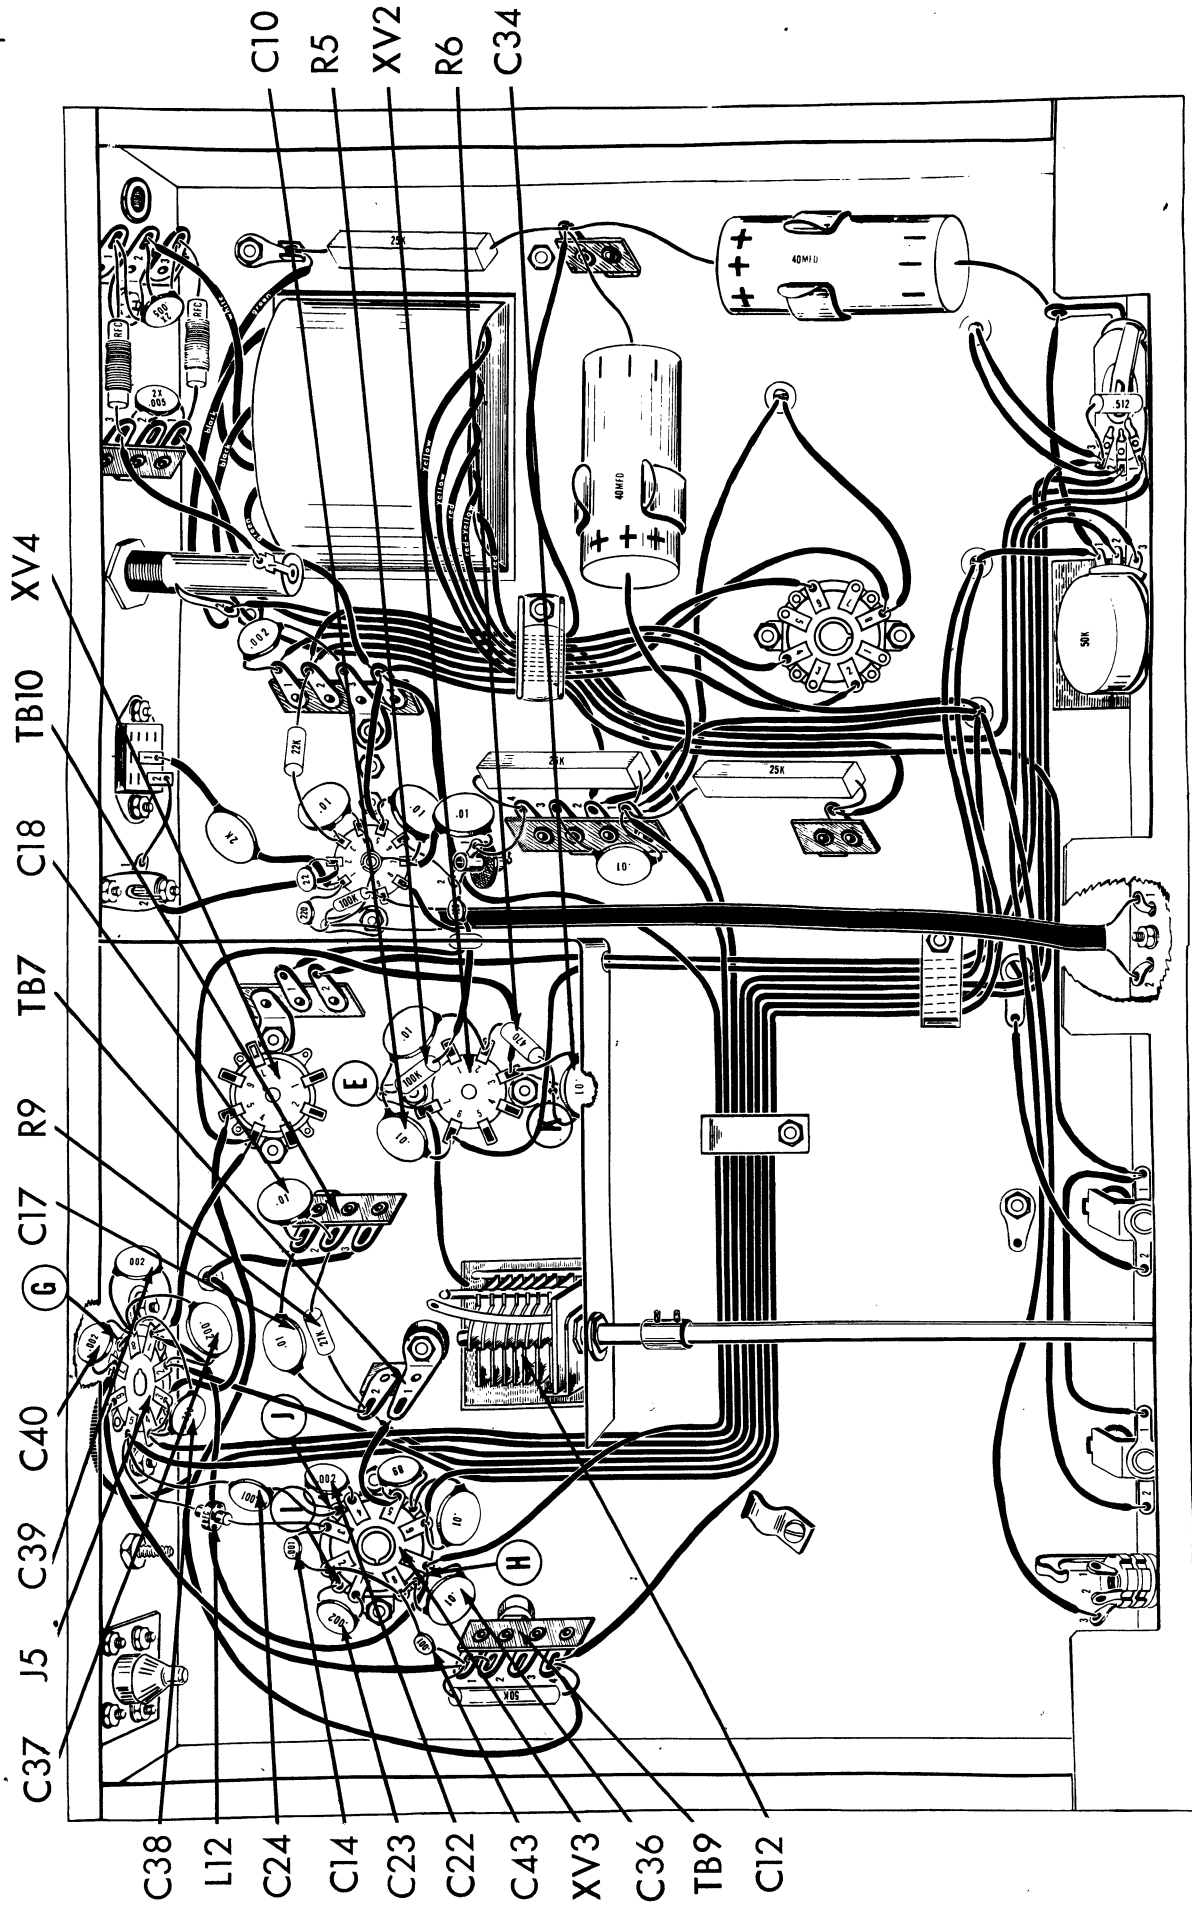

Fig. 7
1. (✓) Fig. 7. Connect a 6 1/2" piece of green wire from XV2-3 (C) to XV4-4 (C).
2. (✓) Fig. 7. Connect a 11" piece of yellow wire from TB9-4 (S3) to XV4-5 (S1).
3. (✓) Fig. 7. Connect an 6" piece of red wire from TB9-1 (C) to J5-6 (S1).
- 3a. (✓) Fig. 7. Connect a 6" piece of green wire from XV3-7 (C) to J5-1 (C).
4. (✓) Fig. 7. Connect a 4" piece of green wire from XV4-4 (S2) to J5-1 (C).
5. (✓) Fig. 7. Connect a 3/4" piece of bare wire from J5-8 (C) to ground lug "G" (S1) at J5.
6. (✓) Fig. 7. Connect a 3/4" piece of bare wire from J5-3 (S2) to J5-4 (C).
7. (✓) Fig. 7. Cut all leads on four .002 mfd (2K or 2000 mmf) disc capacitor, C37, C38, C39, and C40 to 1/2". Cover each of these leads with a 1/4" piece of spaghetti. Connect C39 from J5-1 (S3) to J5-8 (C). Connect C40 from J5-8 (C) to J5-7 (S2). Connect C37 from J5-2 (S2) to J5-8 (C). Connect C38 from J5-4 (S3) to J5-8 (S5).
8. (✓) Fig. 7. Connect a 3/4" piece of bare wire from XV3-8 (C) to ground lug "H" (C) at XV3.
9. (✓) Fig. 7. Cut both leads on a .01 mfd (10K or 10,000 mmf) disc capacitor, C36, to 1/2". Connect C36 from XV3-7 (S3) to ground lug "H" (S2).
10. (✓) Fig. 7. Cut both leads on a .001 mfd - 1000 V (1K or 1000 mmf) disc capacitor, C14, to 1/2". Connect from XV3-2 (C) to XV3-3 (C).
11. (✓) Fig. 7. Connect a 3/4" piece of bare wire from XV3-2 (C) to ground lug "I" (C) at XV3.
12. (✓) Fig. 7. Cut all leads on two .002 mfd (2K or 2000 mmf) disc capacitors, C22 and C23, to 1/2". Connect C22 from XV3-4 (S1) to ground lug "J" (C) and C23 from XV3-1 (S1) to ground lug "I" (S2).
13. (✓) Fig. 7. Connect a 1 1/4" piece of bare wire from XV3-8 (C) to XV3-2 (S3).
14. (✓) Fig. 7. Cut both leads on a .001 mfd - 2000 V (1K or 1000 mmf) disc capacitor, C43, to 3/4". Connect from TB9-1 (S4) to XV3-8 (S3).
15. (✓) Fig. 7. Cut both leads on a .001 mfd - 1000 V (1K or 1000 mmf) disc capacitor, C24, to 3/4". Connect from J5-5 (C) to ground lug "J" (S2) at XV3.
16. (✓) Fig. 7. The small RF choke, L12, is about 3/8" long and consists of a single concentrically wound coil of about 1/2" diameter. A yellow dot is stamped on the body or coil. Cut both axial leads to 3/4". Connect from J5-5 (S3) to XV3-3 (S2).
17. (✓) Fig. 7. Cover a 2 3/4" piece of the heavy bare wire with a 2 1/4" piece of spaghetti. Connect from TB7-1 (C) to XV3-5 (S2).
18. (✓) Fig. 7. Cut both leads on a 27KΩ (red, violet, orange, silver) resistor, R9, to 1/2". Connect from TB7-2 (C) to TB10-2 (C).
19. (✓) Fig. 7. Cut both leads on a .01 mfd (10K or 10,000 mmf) disc capacitor, C17, to 3/4". Connect from TB7-2 (S3) to TB10-1 (C).
20. (✓) Fig. 7. Cut both leads on a 470Ω (yellow, violet, brown, silver) 1 watt resistor, R6, to 1/2". Connect from XV2-2 (S2) to ground lug "K" (C) at XV2.
21. (✓) Fig. 7. Connect one end of a 4" piece of heavy bare wire covered with a 3 1/2" piece of spaghetti to XV2-7 (S1). Push the other end of the cable through the rectangular hole under capacitor, C12.
22. (✓) Fig. 7. Cut all leads on three .01 mfd (10K or 10,000 mmf) disc capacitors, C10, C18, C34 to 1/2". Connect C10 from XV2-6 (S2) to ground lug "E" (C). Connect C18 from TB10-1 (C) to TB10-2 (C). Connect C34 from XV2-3 (S2) to ground lug "K" (C).
23. (✓) Fig. 7. Cut both leads on a 100KΩ (brown, black, yellow, silver) 1 watt resistor, R5, to 1/2". Connect from XV2-1 (S2) to ground lug "E" (C).